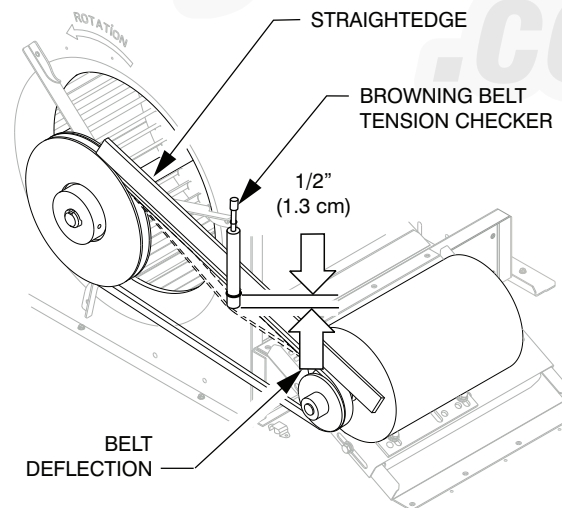

Fig. 5 - Checking Blower Motor Belt Tension
Check the belt condition and tension quarterly. Inspect the belt for signs of cracking, fraying or glazing along the inside surfaces. Check belt tension by using a spring-force tool, such as Browning's "Belt Tension Checker" (p/n: 1302546 or equivalent tool); tension should be 6-lbs at a 5/8-in (1.6 cm) deflection when measured at the centerline of the belt span. This point is at the center of the belt when measuring the distance between the motor shaft and the blower shaft. See Fig. 5.
9. Check the tension after a few hours of runtime and re-adjust as required. See Fig. 5.
4. Recheck belt tension. See Fig. 5.